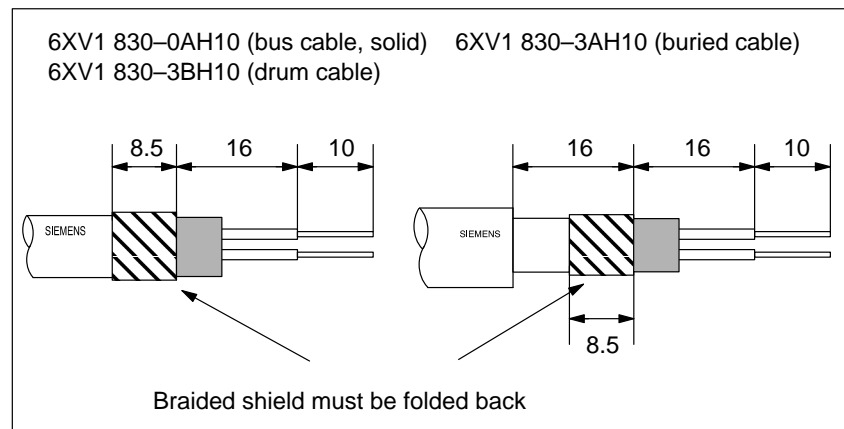

Figure 4-9 Length of stripped ends for connection to RS 485 repeater
2. Strip the ends of the PROFIBUS bus cable as shown in Fig. 4-9.